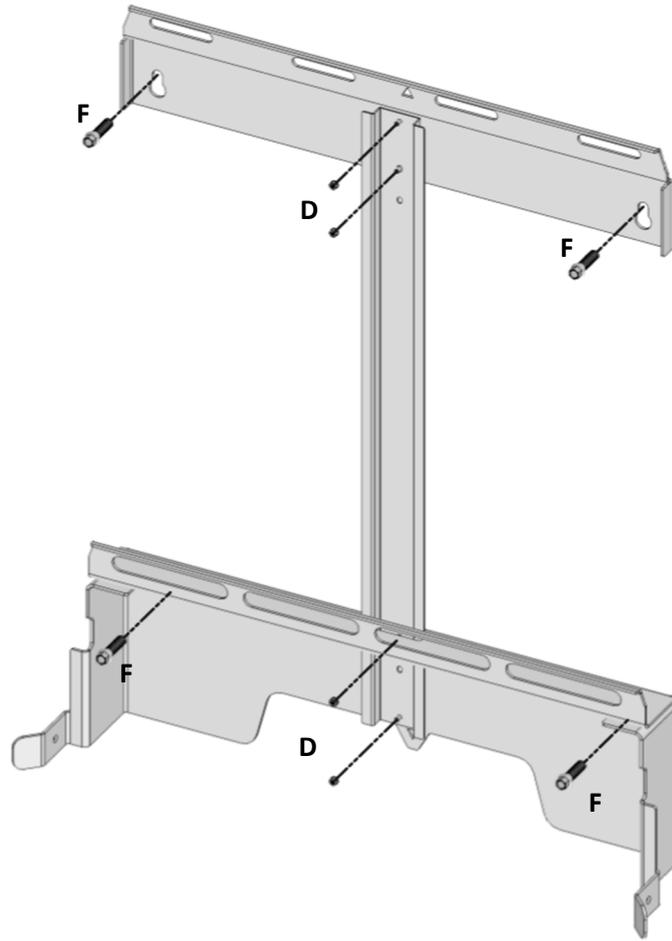

Figure 3-7 Bracket Assembly
Align the holes of sheet metal (B) with the studs on sheet metal (A) and (C) as shown in Figure 3-7. Use four (4) M5 x 0.8 SS (D) nuts to fasten the three pieces together. Using an 8mm socket, torque to 20 in-lbs. (2.3 N-m).